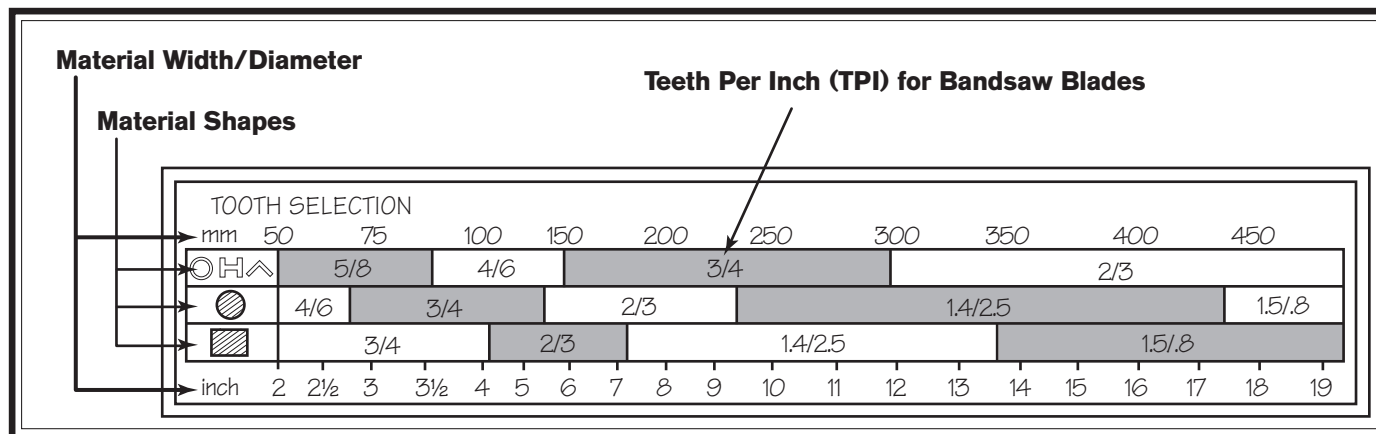

Figure 18. General guidelines for blade selection and speed chart.
2. Refer to the "Material Width/Diameter" row of the blade selection chart in **Figure 18**, and read across to find the workpiece thickness you need to cut.